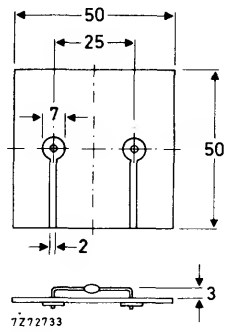

Fig. 2 Mounted on a printed-circuit board.
- Thermal resistance from junction to ambient when mounted on a 1,5 mm thick epoxy-glass printed-circuit board; Cu-thickness  $\geq 40\text{ }\mu\text{m}$ ; Fig. 2